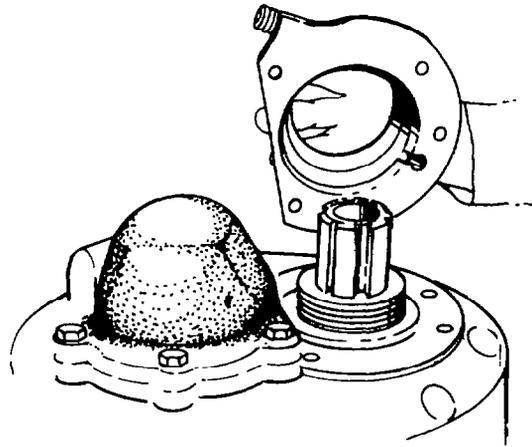

Fig. 266 — Installing Front Output Shaft Bearing Cover
- aj. Install the front output shaft adjusting shims and bearing cover (see fig. 266).